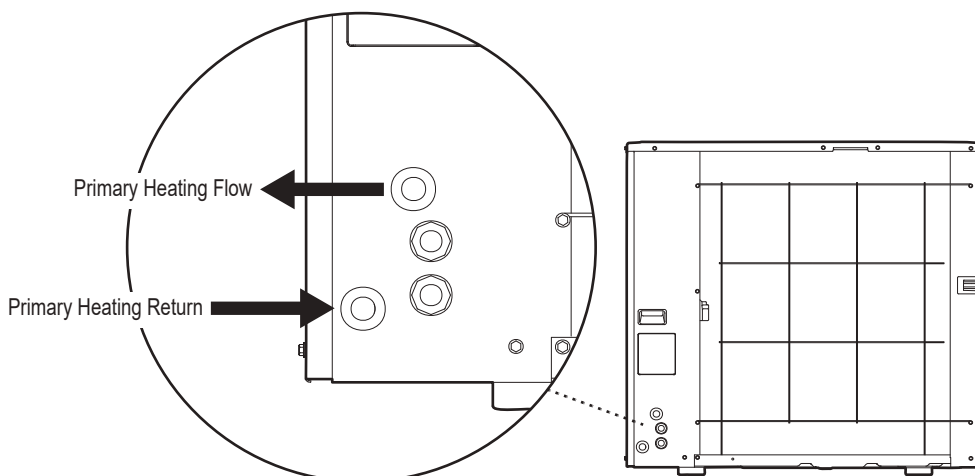
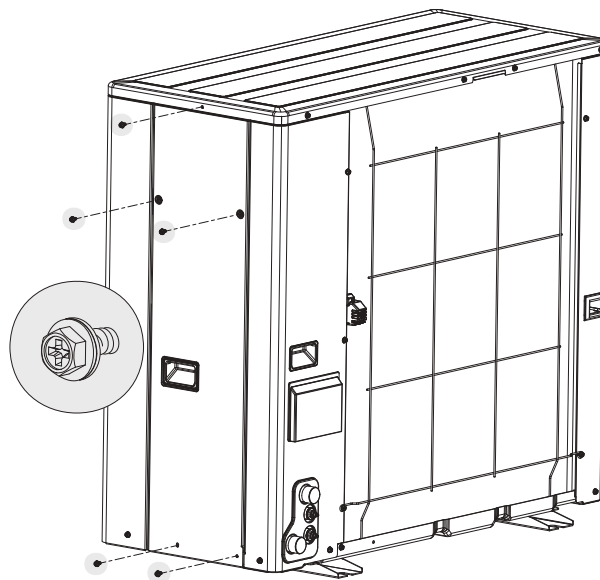
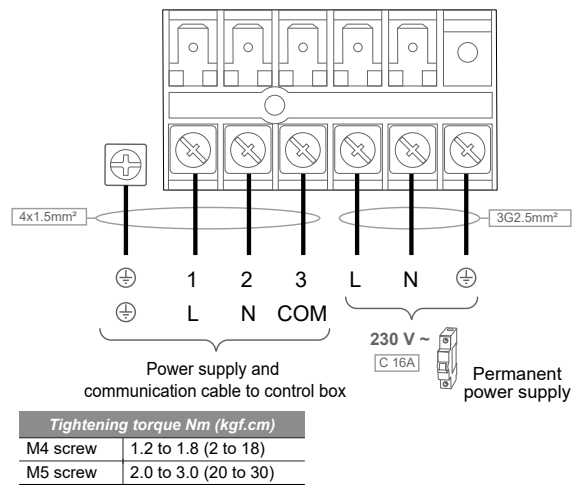

Figure 32. Primary Heating Connections
Figure 33. Heat Pump - Panel Removal
Figure 36. Connections to Heat Pump Terminal Block 4/5 kW models
1. To remove the panel, the 4 lower screws shown in *Figure 33* are removed using an appropriate tool.
When making connections to the electrical terminals make sure that there is no exposed copper wire and that connection terminal screws are tightened to a torque value shown in *Figure 32*, *Figure 33* and *Figure 36*.
The supply connections are shown in *Figure 32*, *Figure 33* and *Figure 36* and secured by the securing clip below the terminal.
Communication wires are shown in *Figure 32*, *Figure 33* and *Figure 36* and secured by the securing clip below the terminal.